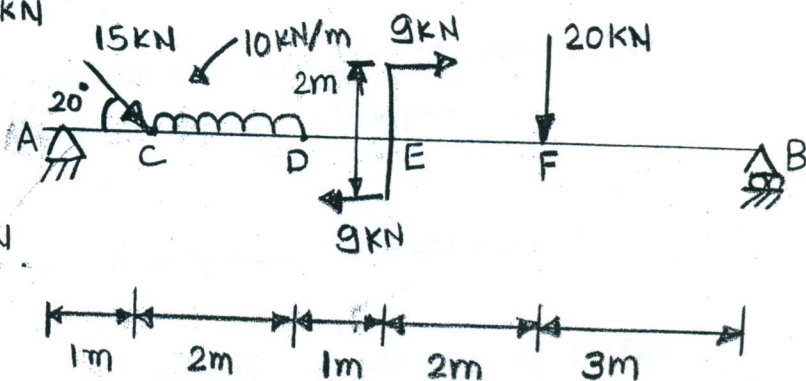

Fig. 6
(B) Determine support reactions for a beam shown in Fig.6. 05